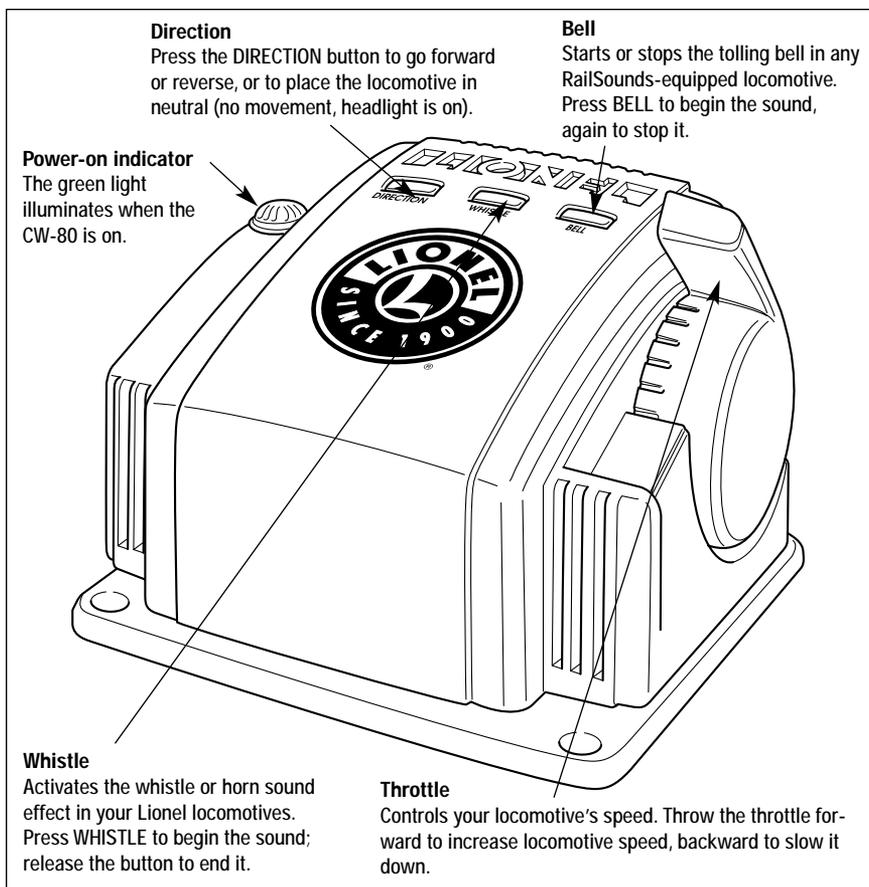

Figure 5. Transformer features
Refer to Figure 5 on page 11 for the location of the Transformer features listed in this section.
3. Press and hold down the DIRECTION, WHISTLE, and BELL buttons on the Transformer. Refer to Figure 5 on page 11 for the location of these buttons.